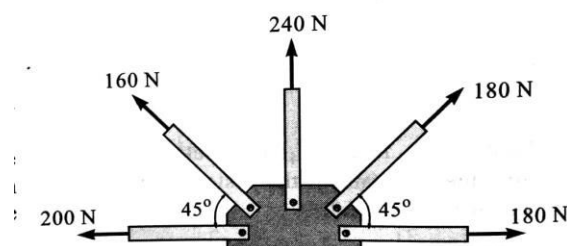

Fig.2
- A gusset plate of roof truss is subjected to forces as shown in Fig.2. Determine the magnitude of the resultant force and its orientation measured counter clockwise from the positive x-axis. [L4] [12 M]